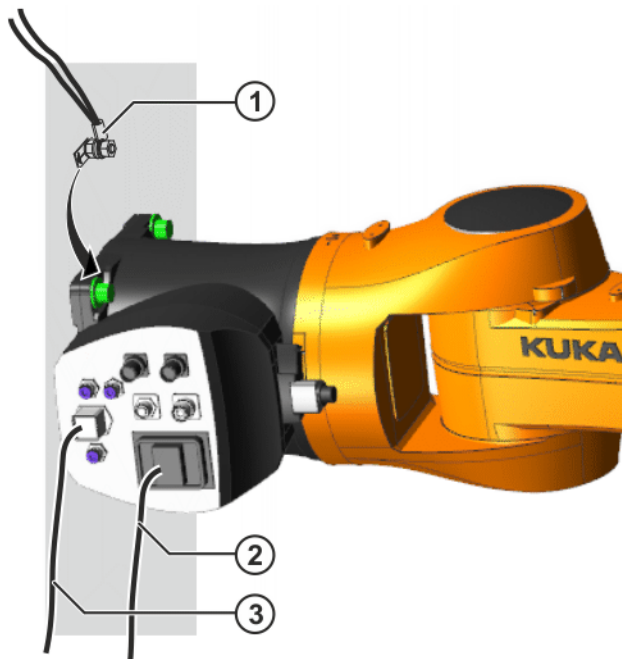

Fig. 8-9: Connecting the cables
20. Connect motor cable X30 and data cable X31 (>>> Fig. 8-9).